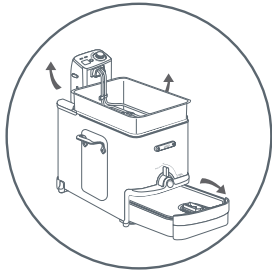

Fig. 1
- Your fryer is easy to handle and to dismantle – fig. 1.
- The fryer can be completely dismantled – fig. 1.